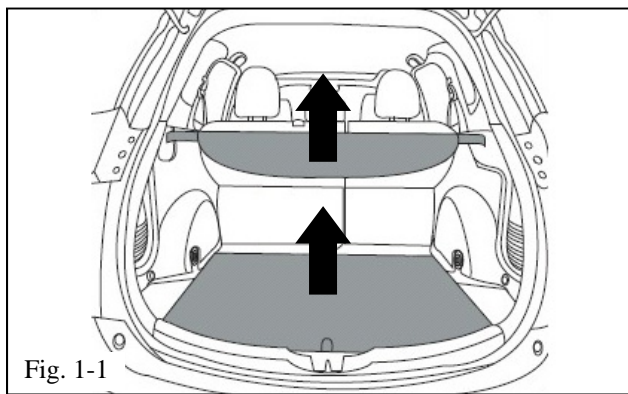

Fig. 1-1
- (b) Remove the tonneau cover and lift out the trunk floor panel (Fig. 1-1).